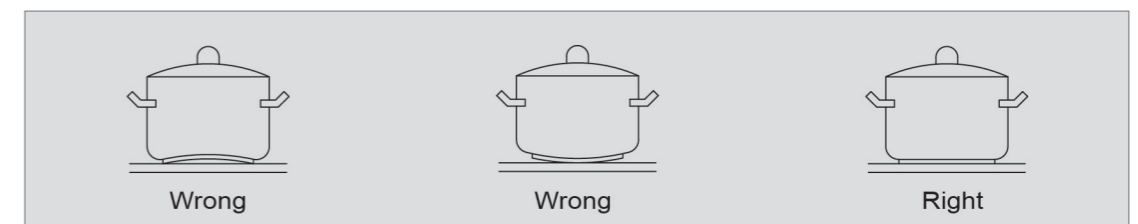

figure 16
3. To get best cooking results, the bottom of porcelain enamel steel pan shall be 2-3mm thick, the bottom of stainless steel filled pan shall be 4-6mm thick. (figure 16)